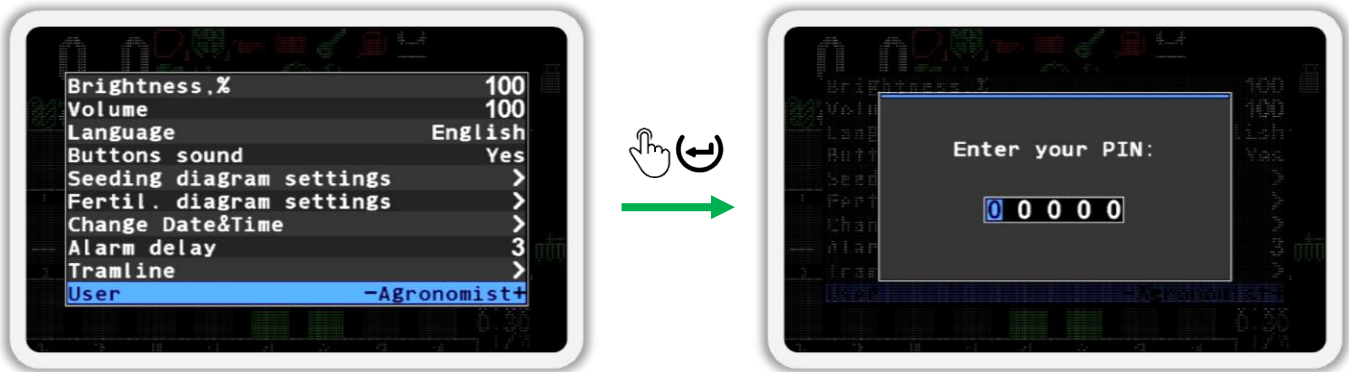

Figure 106
- Select the user “Agronomist” (see Figure 106 on the left). To do this, use the  “Plus” or  “Minus” buttons.
- In the window that appeared (see Figure 106 on the right), enter the PIN code “88888”. A number whose value can be changed is displayed in black on a blue background. To change its value, use the  “Plus” and  “Minus” buttons and to move to another number, use the  “Up” and  “Down” buttons.